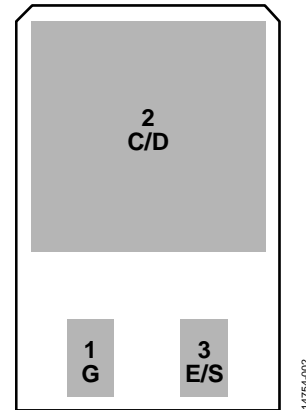

Figure 2. IGBT/MOSFET Footprint
- Q1, Q2, and Q3 can be populated with TO-252 MOSFETs or IGBTs with the pinout shown in Figure 2.